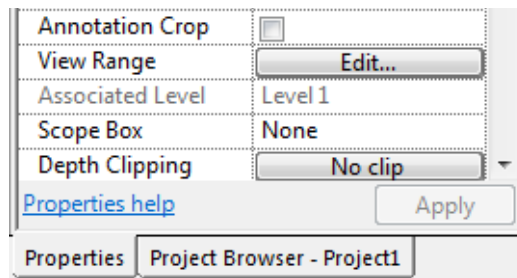

Figure 2–4
- The Properties palette can be floated and moved around the interface. You can also dock it on top of the Project Browser and then switch between them using the tabs at the bottom of the palette, as shown in Figure 2–4.